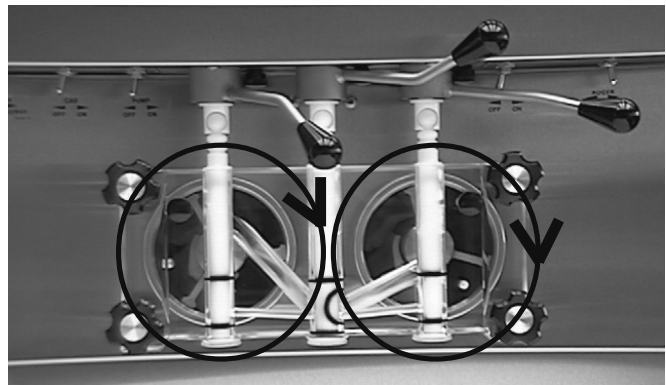

Figure 5. Auger Rotation
- D. Check the auger shaft rotation by placing the MAIN DRIVE switch in the CLEAN position. Auger shaft rotation is clockwise as viewed through the clear plastic front door. If the rotation is not clockwise, turn main electrical power OFF. Then reverse L1 and L3 electrical power lines to the junction box (three phase only). Re-check auger shaft rotation. (Figure 5)